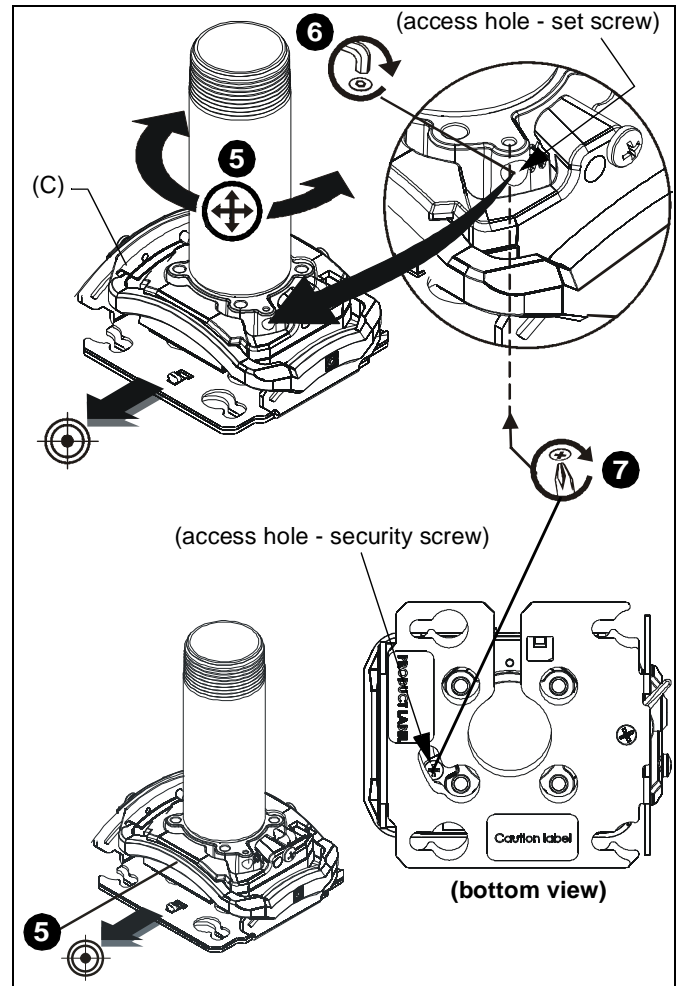

Figure 2
- Turn security screw (shipped installed in projector mount and accessed through bottom of projector mount) using a Phillips screwdriver until set screw cannot be seen through access hole in projector mount. (See Figure 2)